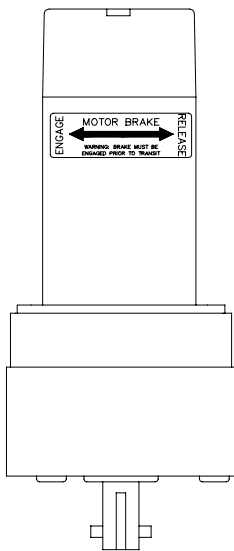

Fig. 3 Motor Brake Lever
4. Rotate the brake lever, on the backside of the motor, counter-clockwise (looking from the rear of the motor) about 1/8 of a turn to the released position. Refer to Fig. 3. This will release the brake that holds the room in place.